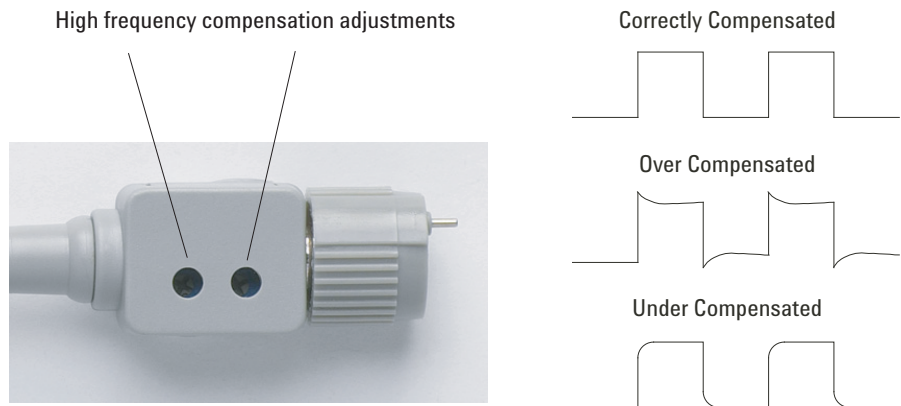

Figure 5 High Frequency Probe Compensation
- 4 If waveform does not appear like the Correctly Compensated waveform shown in Figure 5, then use a nonmetallic tool to adjust the 2 high frequency compensation adjustments on the probe for the flattest square wave possible.